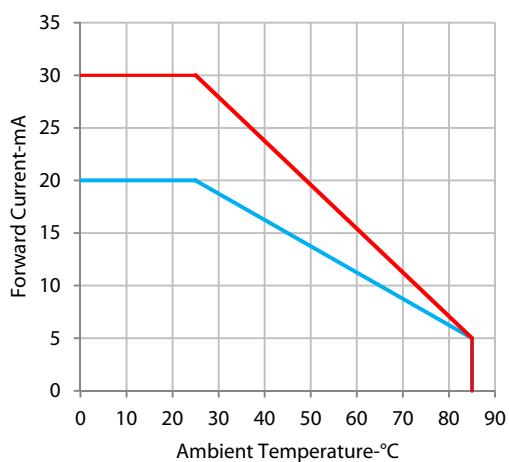

Figure 5. Derating curve
1. Derate as shown in Figure 5.